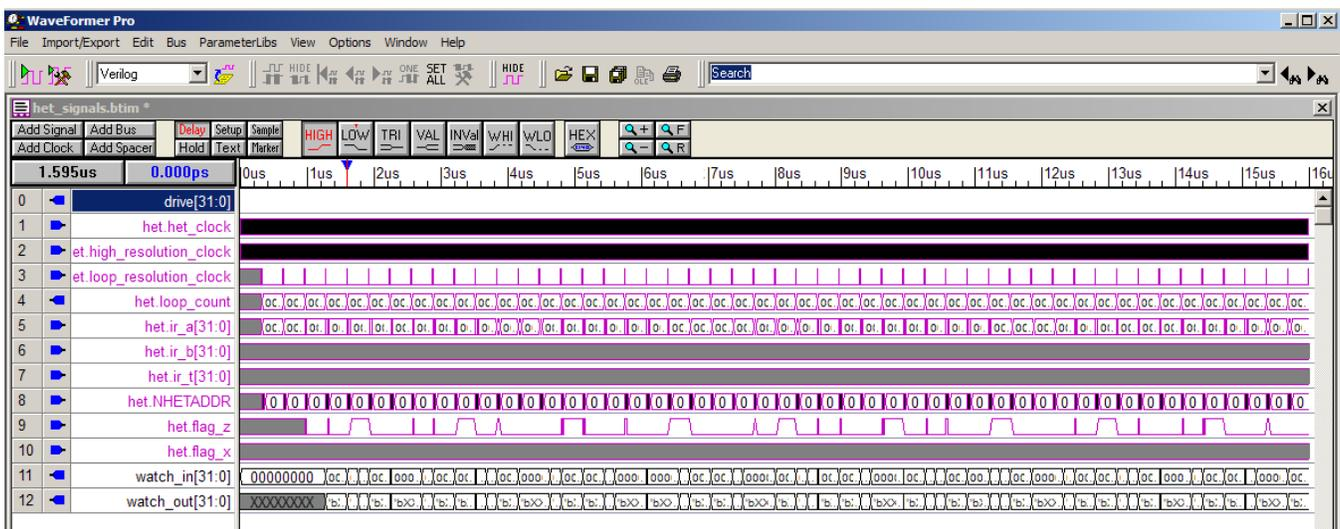

Figure 49. Waveform Without XOR Configuration
- View the Waveform and use the Magnifier + F to zoom to show the full waveform. Your display should look like Figure 49. There is clearly activity on the HET output pins (watch_out[31:0]), but it is difficult to see if the activity is on pins 0,1, and 2 as expected.